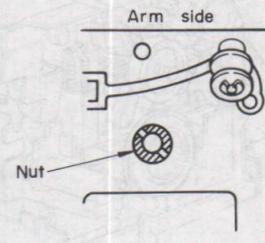

Fig. 17
- 6) Remove tone arm fixing nut in Fig.17 and disassemble tone arm from tone base.